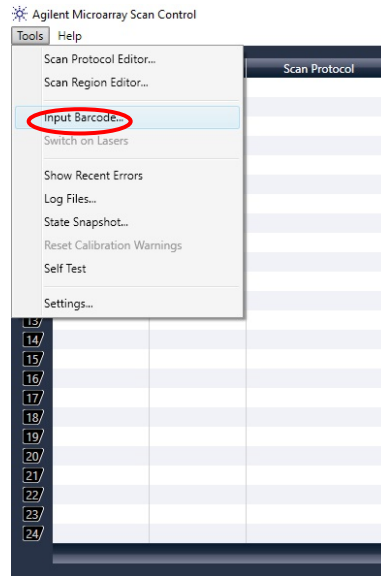

Figure 13: Input Barcode
3. Click 'Tools > Input Barcode' (Figure 13).